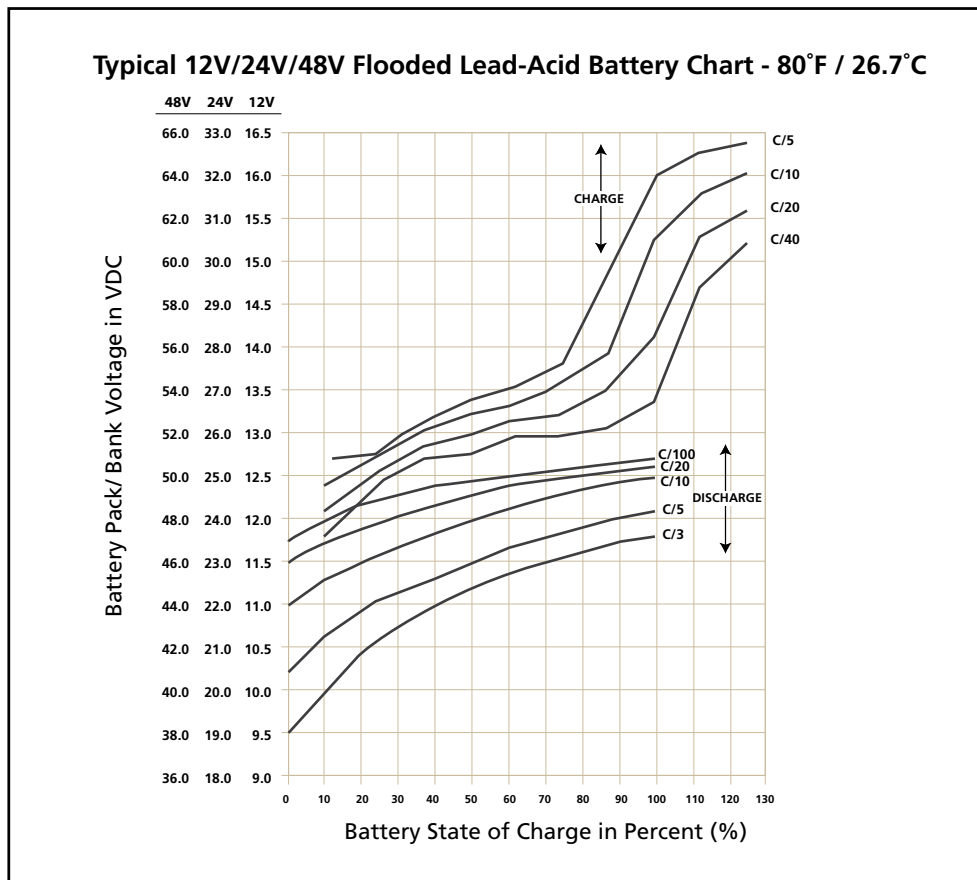

Fig 1.4.1 Charging / Discharging Curves for Typical 12V/24V/48V Flooded Lead Acid Battery
1.4.11.1 Fig 1.4.1 shows examples of State of Charge / Discharge Curves for different C-rates for typical 12V / 24V / 48V Lead Acid Battery Pack/ Battery Bank at 80°F / 26.7°C. These curves are used to determine the State of Charge / Discharge of the Battery Pack/ Bank based on its terminal voltage.
1.4.11.2 Example of Determining State of Charge (using Fig 1.4.1) when Charging 48V, 100Ah Battery Bank at C-rate of 0.1C or C/10 or 10A: Refer to Charge Curve marked C10 of the upper 4 curves marked "CHARGE".
1.4.11.3 Example of Determining State of Discharge (using Fig 1.4.1) when Discharging 48V, 100Ah Battery Bank at C-rate of 0.33C or C/3 or 33.3A: Refer to Charge Curve marked C3 of the lower 4 curves marked "DISCHARGE".
The discharge curves in Fig. 1.4.1 show the % State of Charge versus the terminal voltage of typical Flooded Lead Acid Battery under different charge /discharge currents, i.e. “C-rates” and fixed temperature of 80°F. *(Please note that the X-Axis of the curves shows the % of State of Charge. The % of State of Discharge will be 100% - % State of Charge).*
As stated earlier at Section 1.4.14, the buzzer alarm is triggered when the voltage at the DC input terminals of the inverter has dropped to around (i) 10.5V for a 12V battery pack/ battery bank or, (ii) 21V for 24V battery bank or, (iii) 42V for 48V battery bank at C-rate discharge current of C/5 Amps. Please note that the terminal voltage relative to a particular State of Discharge decreases with the rise in the value of the discharge current. For example, terminal voltages for a State of Discharge of 80% (*State of Charge of 20%*) for various discharge currents will be as given at Table 1.4.5 (*Refer to Fig. 1.4.1 for parameters and values shown in Table 1.4.5*):
Inverters are normally provided with a protection to shut down the output of the inverter if the DC voltage at the input terminals of the inverter drops below a threshold of (i) around 10V for a 12V battery pack/ battery bank or, (ii) 20V for 24V battery bank or, (iii) 40V for 48V battery bank. Referring to the Discharge Curves given in Fig 1.4.1, the State of Discharge for various C-rate discharge currents for battery voltage of 10V / 20V / 40V is as follows: (Please note that the X-Axis of the curves shows the % of State of Charge. The % of State of Discharge will be 100% - % State of Charge):